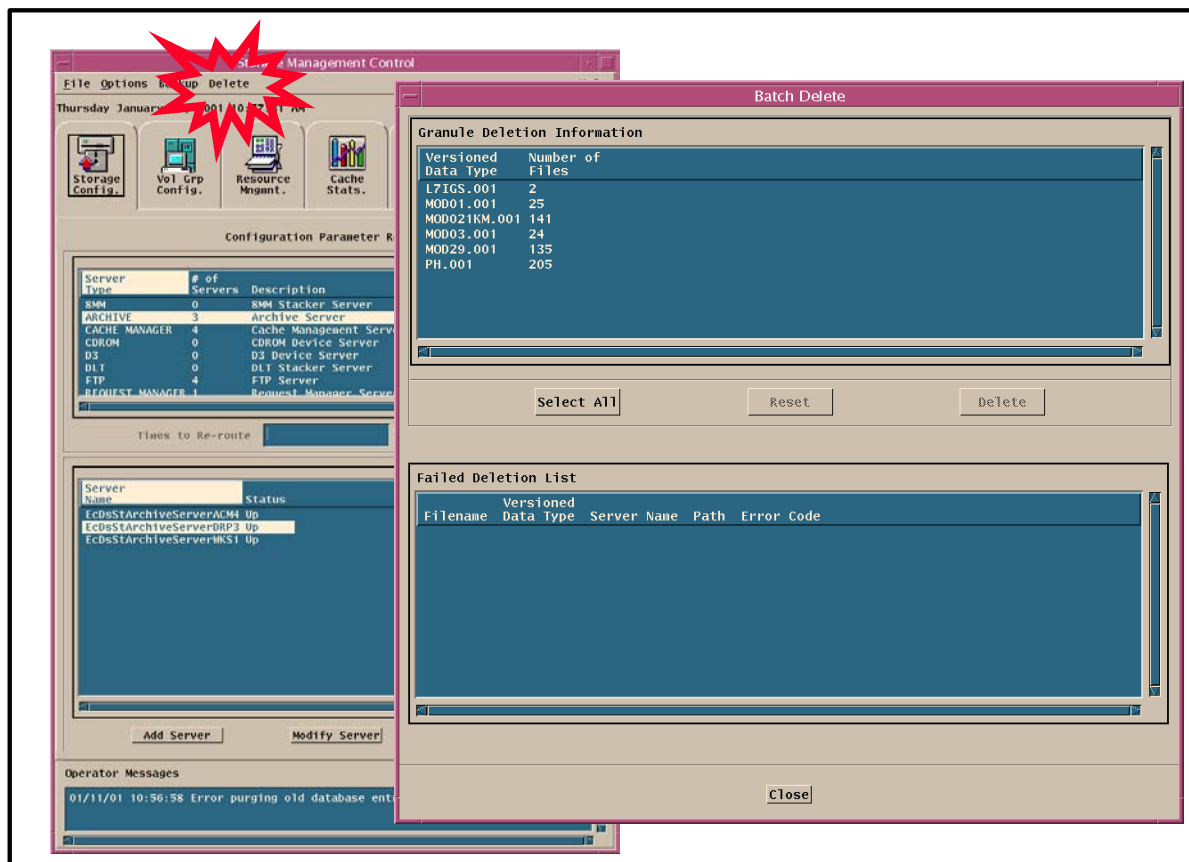

Figure 20. STMG GUI screen for granule deletion from archive
- *Deletion from Archive (DFA):* STMGT provides a GUI screen, as illustrated in Figure 20, that allows the operator to initiate the removal from the archive of the files listed in its deletion table (populated by SDSRV). STMGT creates requests to the archive servers to delete files. The STMGT GUI can be used to look at the state of the deletion requests. Files that are successfully deleted have their associated rows removed from the STMGT database table.